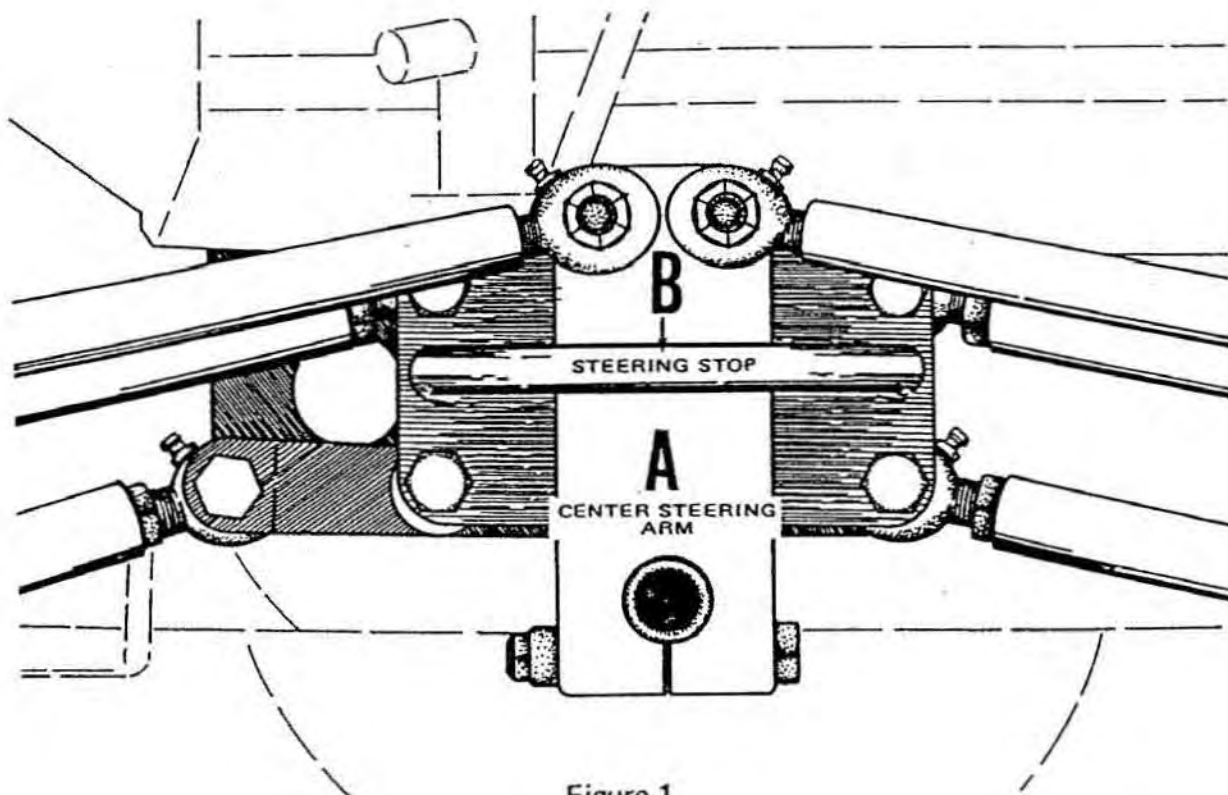

Figure 1
2. The center steering arm (A) must be exactly centered in the steering stop (B) with the handlebars parallel to the steering support brace. Adjust tie rod accordingly to obtain proper steering arm center adjustments, Fig. 1.
Port Dimension, Fig. 1